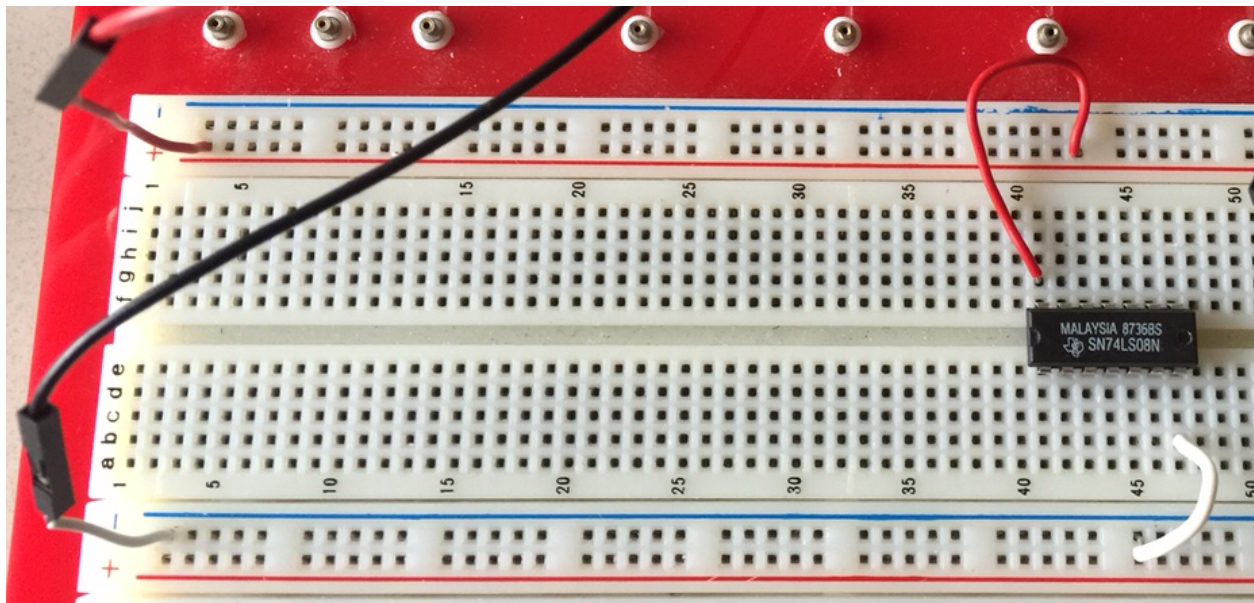
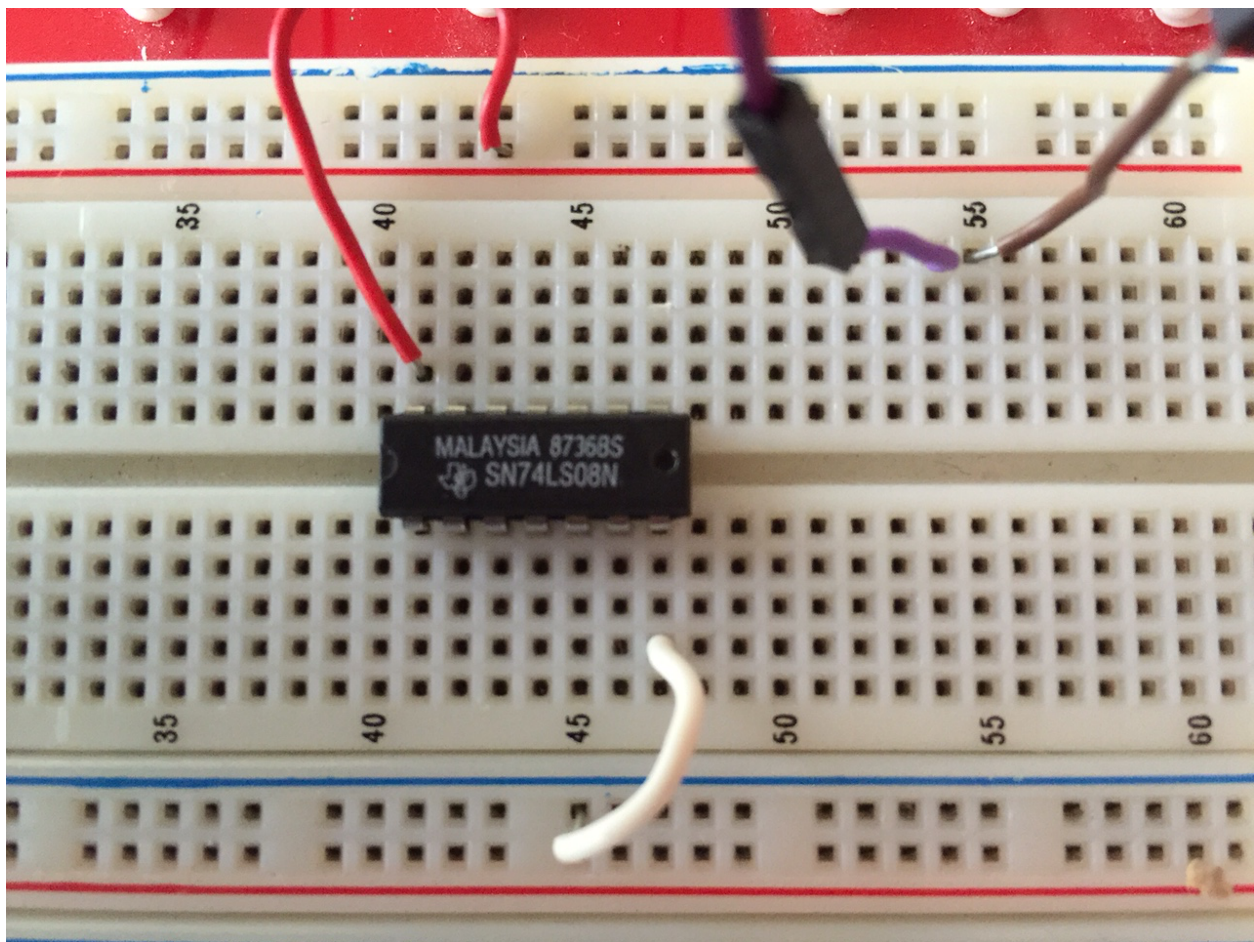

Figure 2: A Closer View of a Breadboard
Figure 3: An Up Close View of an IC Chip
The plug board is divided into two halves – a top half and a bottom half. The bottom half has rows labeled **abcde** and the top half has rows labeled **fghij**. The halves are isolated from each other by a depression in the plastic – the chip gap. Each half contains sixty-four (64) columns. Each column is a unique connection node for wires and chip pins. ***Any wire or chip pin plugged into the same column is electrically connected to everything else plugged into that column.*** Each column consists of five plug points. Each plug point in a column supports only one pin or wire. Figure 2 shows these lettered rows and numbered columns.
Breadboards often contain power lines. In Figure 2, four power lines are visible: two red colored power lines and two blue colored power lines. Any column plug point along the power line is connected to the power line. Thus, Figure 2 shows battery power coming onto the board from the Analog Discovery Kit along the left hand side. **Red wire** is used in digital circuits to represent the hot terminal of the battery. This high energy terminal is usually called V+, VDD, VCC, or BAT+ on schematic diagrams. **Black, blue, or white wire** is used in digital circuits to represent the ground terminal of the battery. This ground terminal is usually called GND or VSS in schematic diagrams.
Thus, Figure 2 shows V+ and GND energizing “hot” and “cold” power lines running the horizontal length of the board. The IC chip sits across the chip gap with its pins aligned and inserted into unique columns. Battery power and ground have been connected to appropriate pins of the chip. Why were those pins chosen? The standard logic families place power and ground pins at standard locations on the chip. For DIP chips, power is always the pin at the upper right and ground is always the pin at the lower right. That means there must be a way of “orienting” the chip so that “top”, “bottom”, “left”, and “right” can be identified. All DIP chips have a notch cut into one short end or a depressed dot at one short end. Some chips have both a notch and a dot. The **notch always takes precedence** in chip packaging. Figure 3 shows the top of the chip up close.
The chip in Figure 3 has both a notch and a dot. The notch takes precedence. **The notch marks the “top” of the chip.** The pins number counter-clockwise beginning to the left of the notch.
The top of the chip is silkscreened with its country of origin, fabrication date code, part number, and manufacturer. The date code is a 4-digit number in the format YYWW where YY represents year and WW represents the week of the year. The silkscreen of the chip in Figure 3 shows that it was fabricated in Malaysia in 1987 by Texas Instrument and is a 7408 quad 2-input AND chip. While it might seem that a 1987 chip is very old, 7400 family chips can actually last 50 to 60 years!